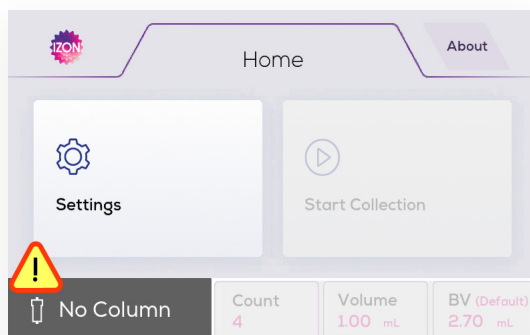

Figure 9: Home screen when no column is attached to the AFC
3. Before a column has been inserted or if a column without an RFID tag has been inserted, the tower lighting will be white, and the home screen will display “No Column” as shown in Figure 9 below.